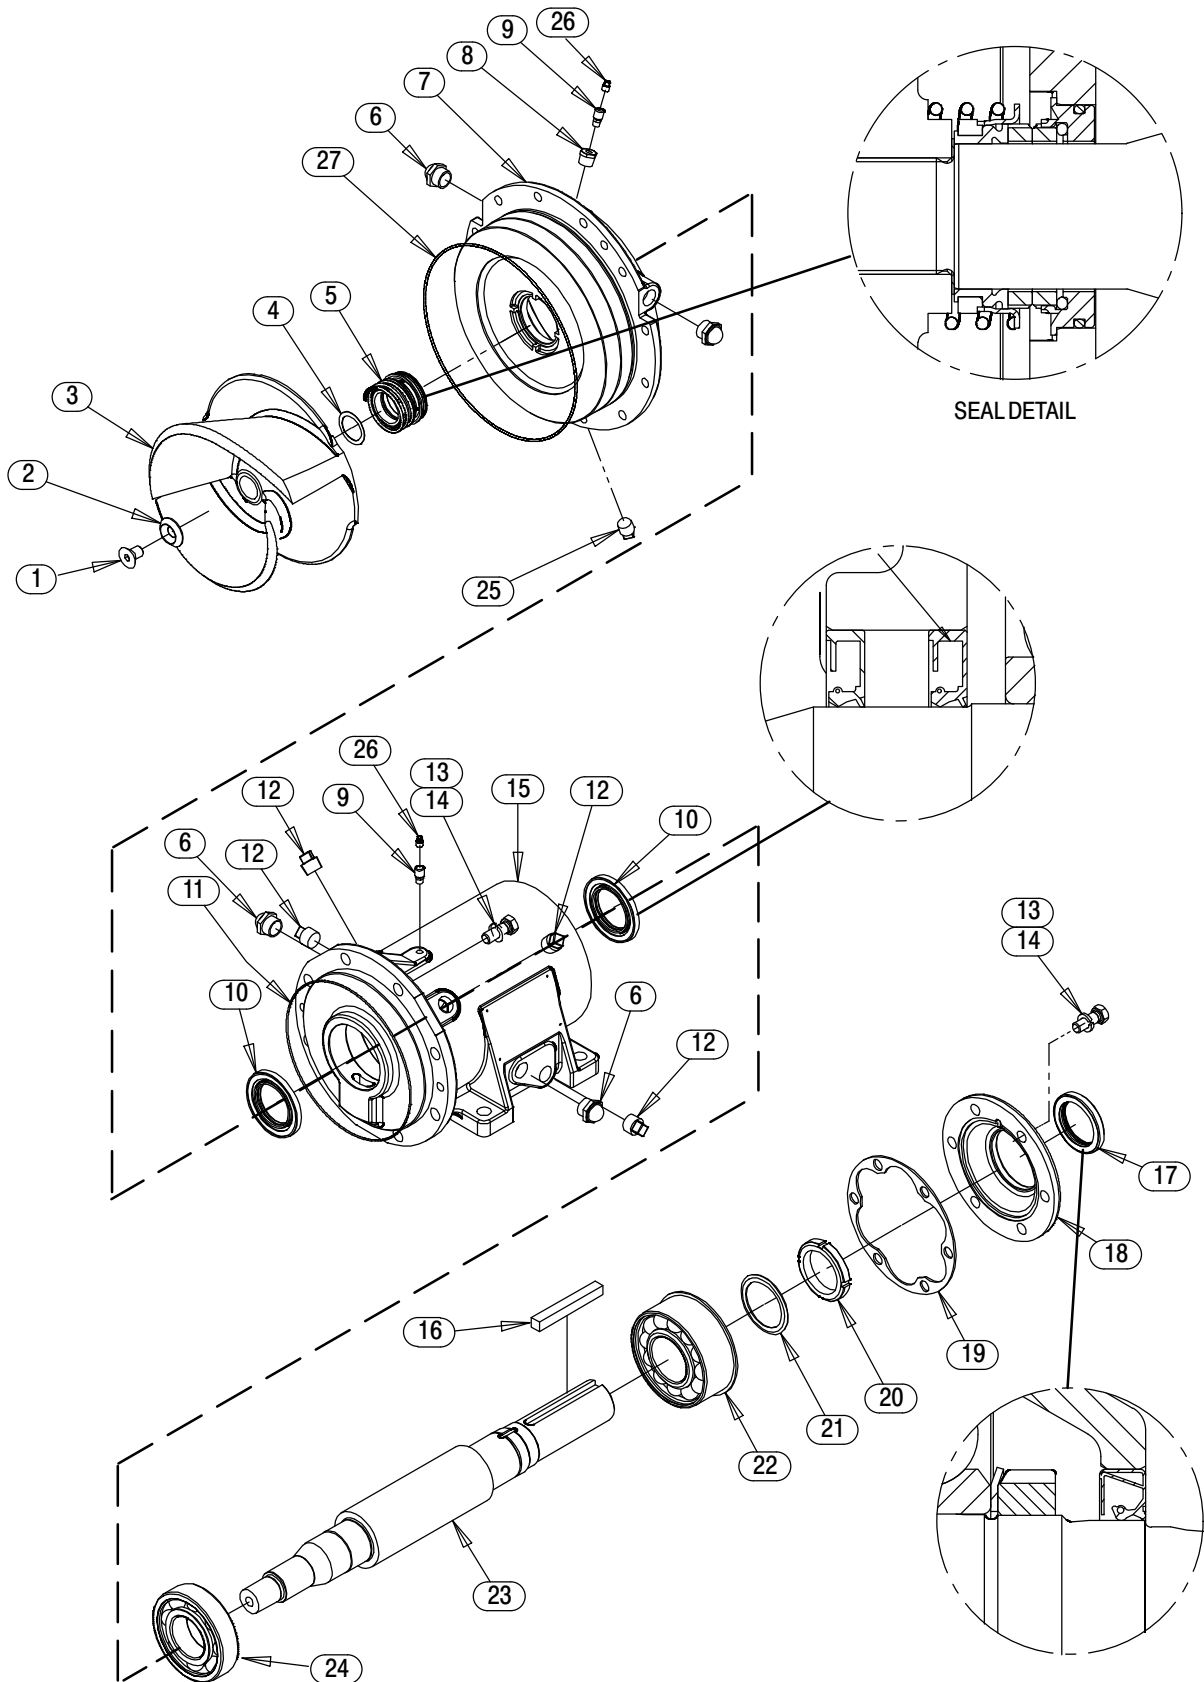

Figure 2. Repair Rotating Assembly
#### (Figure 2)
#### (Figures 2)
Further disassembly requires separating the rotating assembly from the power source. Remove the coupling securing the rotating assembly to the power source and remove the key (16, Figure 2).